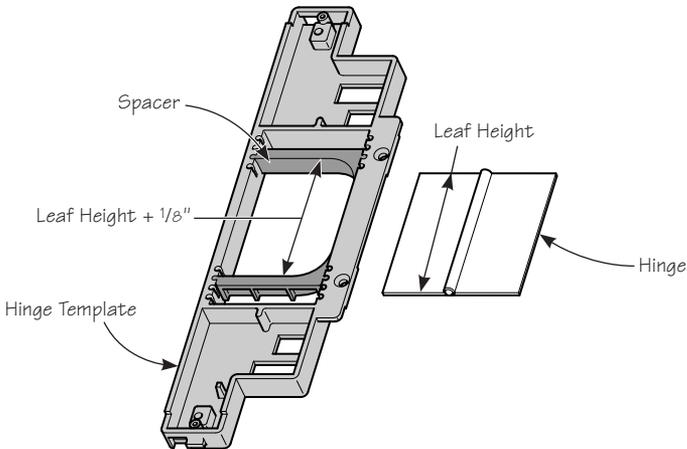

Figure 3: Aligning spacers for hinge with square or 1/4" radiused corners.
- b. For hinges with $\frac{1}{4}$ " radiused corners or square corners, align the spacers as shown in **Figure 3**.